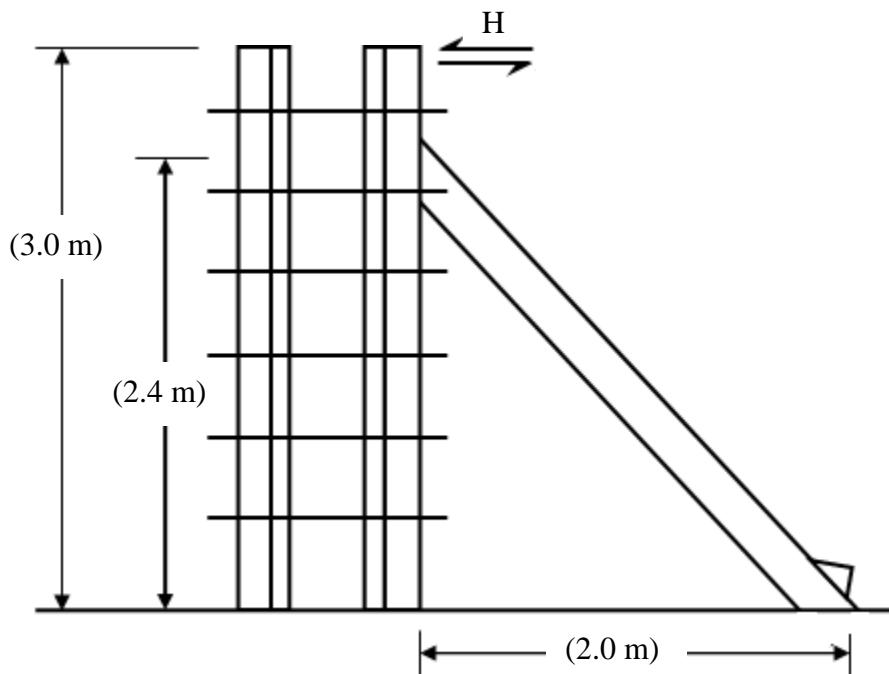

Figure 1 Lateral Bracing System
- b) The lateral bracing system for a wall form is as shown in Figure 1. Determine the spacing of the 40 mm x 90 mm timber given the following data:-